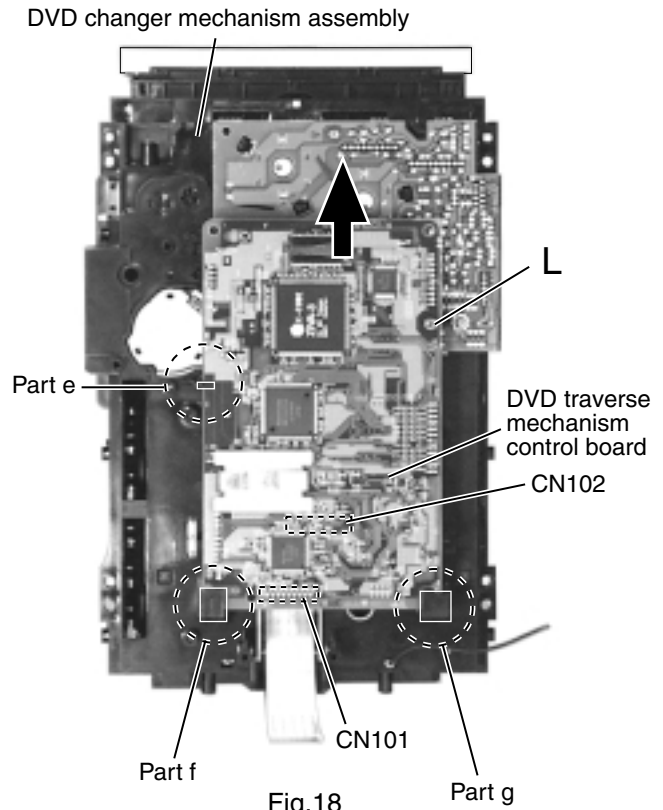

Fig.18
■ Removing the traverse mechanism control board (See Fig.18)